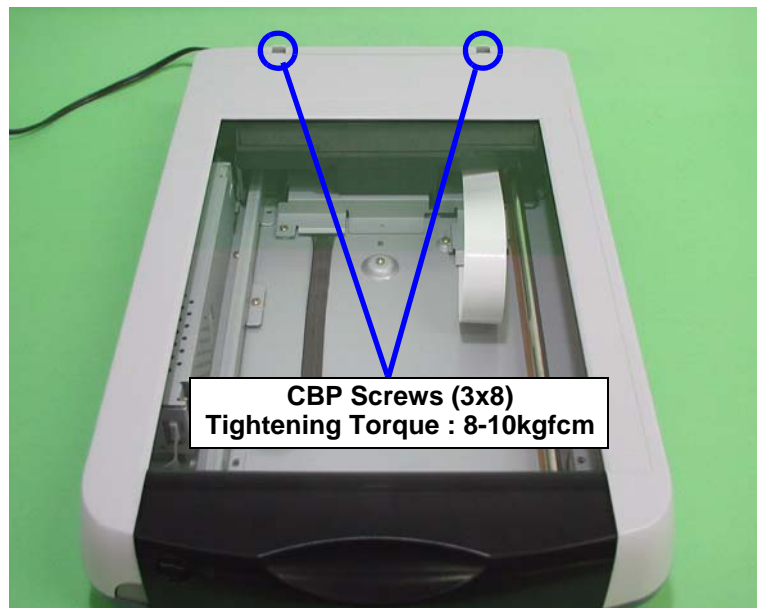

Figure 4-6. Upper Cover Removal (1) - Screw Positions
3. Remove the two screws (CBP, M3x8) at the back of the scanner. (See Figure 4-6.)